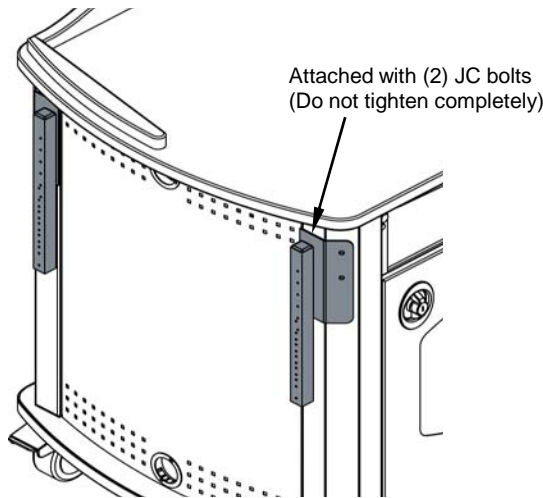

Figure 1
- Attach the left and right support brackets to the LINK cart as shown using (2) 1/4-20 x 20mm JC bolts per bracket. **Figure 1.**